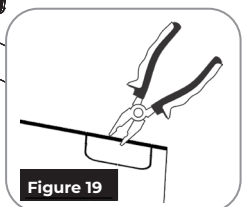

Figure 19
3. **Optional:** If the PC Conduit Bracket or Surface Conduit Bracket is installed, use pliers to remove the appropriate knockout located on the top of the cover. (Figure 19)